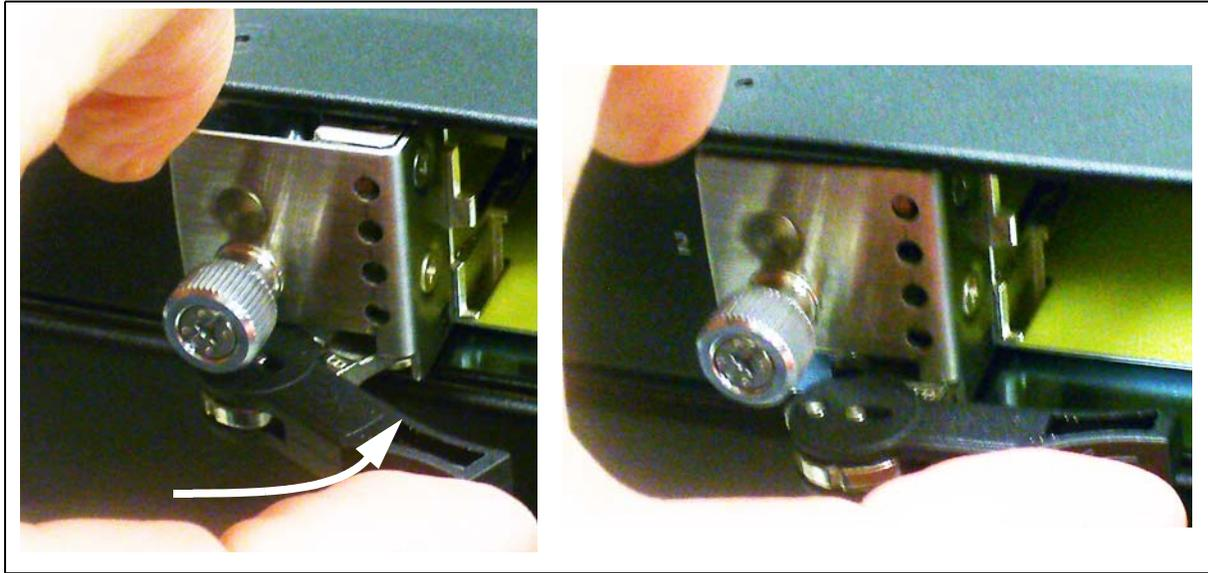

Figure 5.31 - G10 IIC Ejector Handle - Seating the Board
6. Push the ejector handles inward until they are flush with the front of the chassis and the blade is inserted fully (**Figure 5.31**).